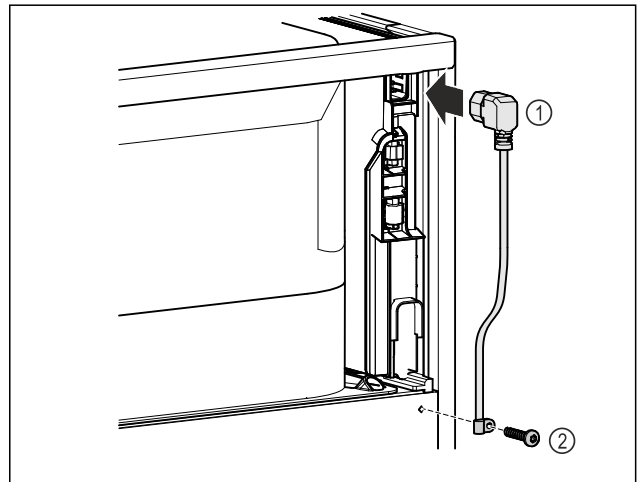

Fig. 72
- IEC socket of the power cable Fig. 72 (1) on the rear side of the appliance.
- Install mains tension relief. Fig. 72 (2)